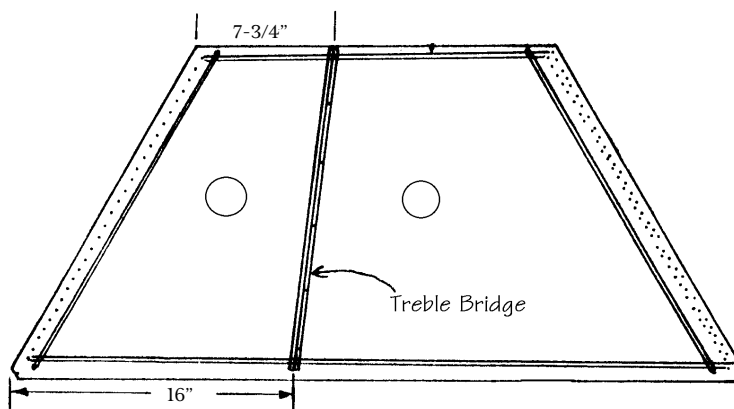

FIG. 18
- 27. Stand the TREBLE BRIDGE (the longer one) on the instrument so that the upper end is about 7-3/4" from the rear left corner of the box, and the lower end is about 16" from the front left corner (fig. 18) Hold it in place temporarily with a little masking tape.